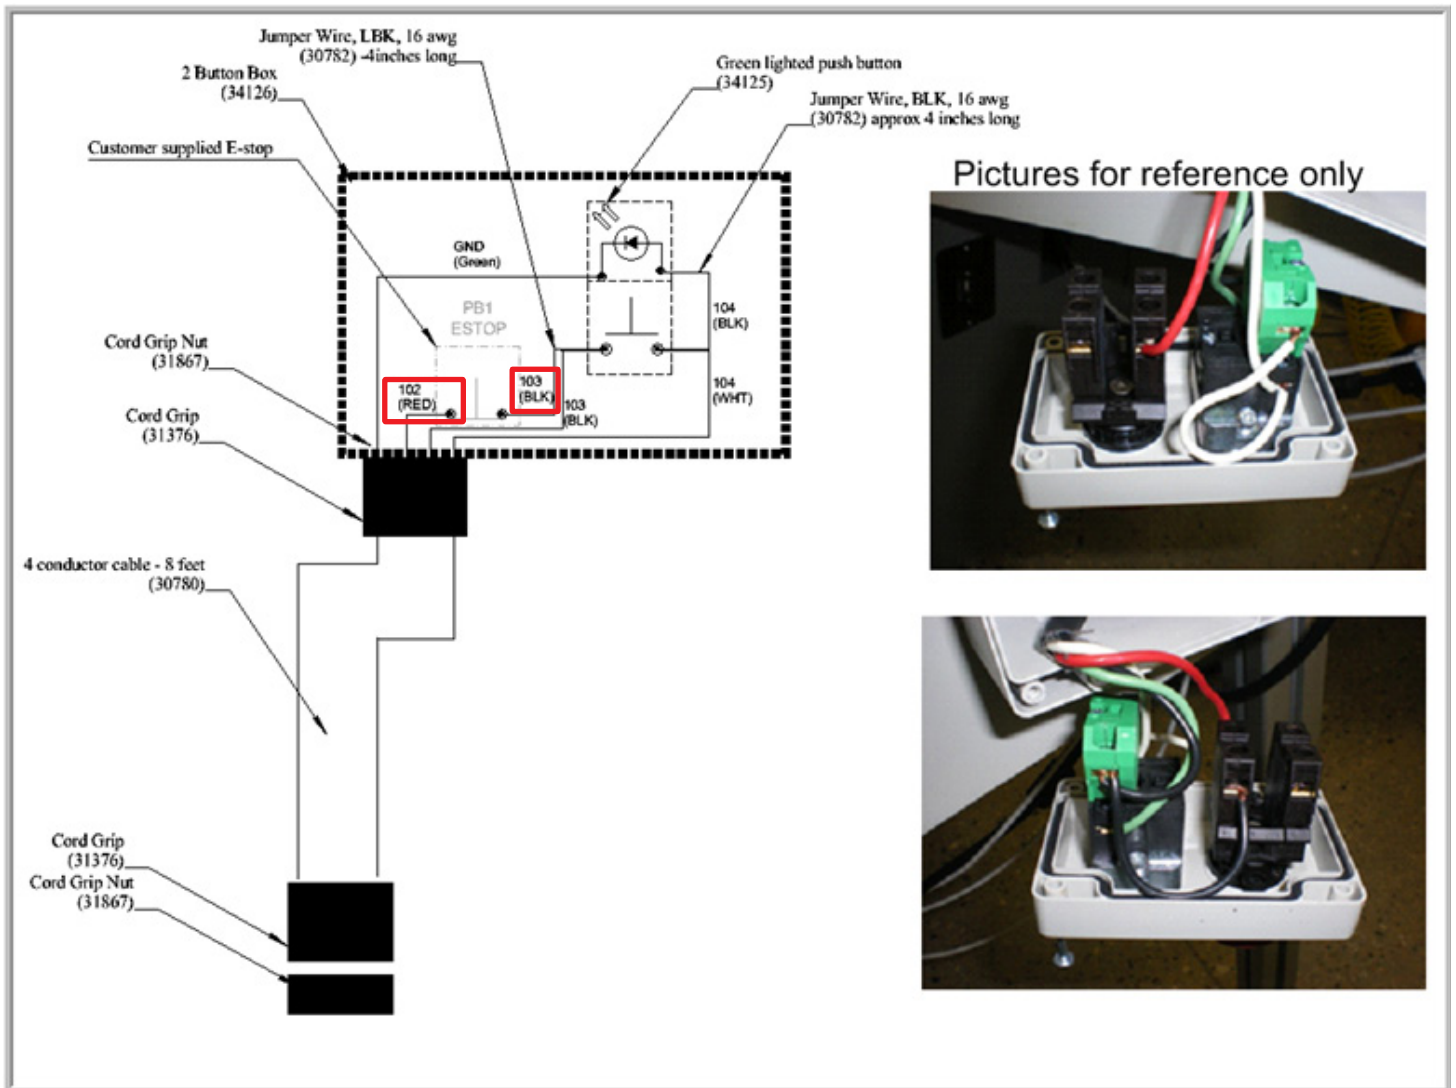

Figure 6
8. Mount the E-stop button base, and contact block (removed in step 3) into the open hole in the Remote Box (Item #3) as seen in **Figure 6**. Connect the contact block to the Red (102) and Black (103) wires. Polarity is not critical.